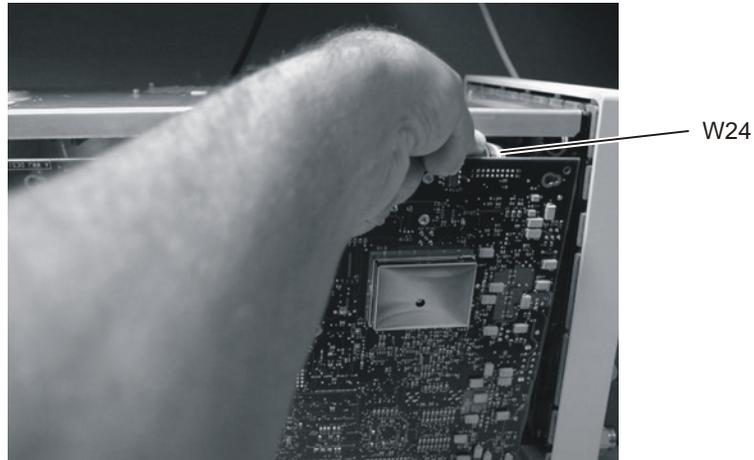
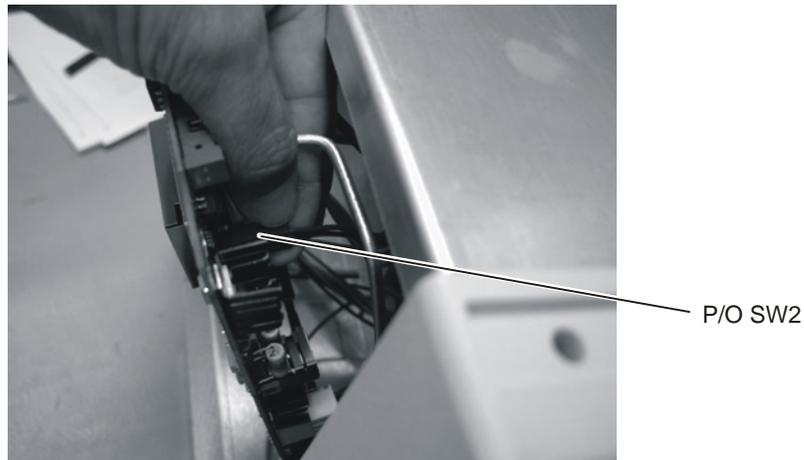

Figure 7-64. Removing the W24 Ribbon Cable from P24 SRC_SEL
Figure 7-65. Removing the SW2 Cable from P19 Connector
- 5 Pull the board out a few inches, then disconnect the W24 ribbon cable and the cable from the SW2 Transfer Switch, as shown in Figure 7-64 and Figure 7-65.